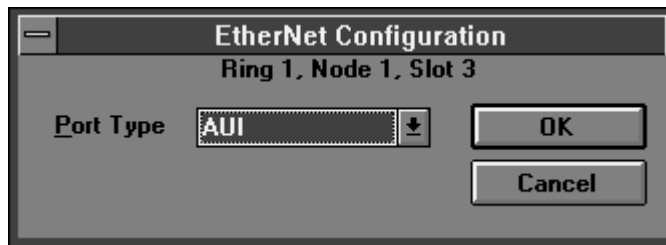

Figure 3-3. EtherNet Configuration
3. Select the interface port type from the dialog box in Figure 3-3 as follows: